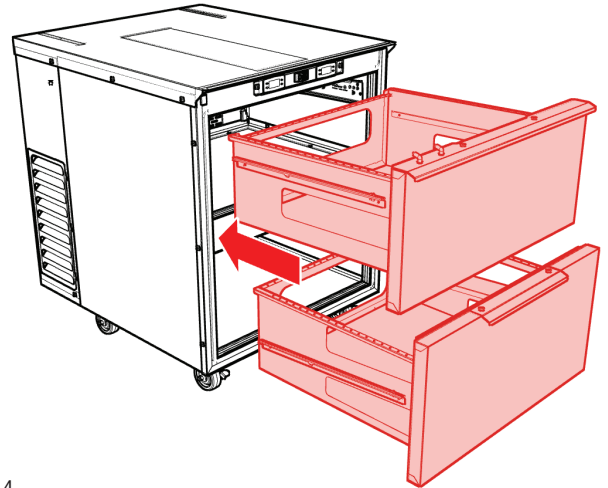

Fig. 4
5. Reinstall both drawers (Fig. 4) (refer to *Drawer Installation*, Page 9).